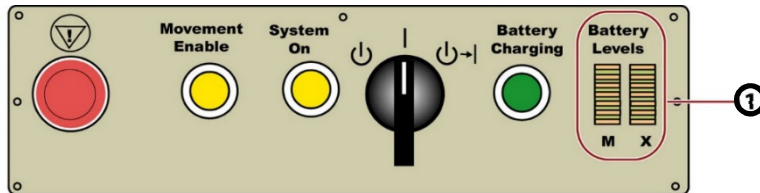

FIGURE 1
**Battery Level Indicators:** On the IAS Power Control Panel shown in Figure 1, the two columns of yellow LED lights (①) indicate the battery levels for the motion batteries (M) and the X-ray batteries (X). See “Battery Charge Level Indicators” in the user manual for more information about battery charge levels represented by the scrolling LEDs. See “User Performance Checks” in the user manual to ensure proper operation of the machine.